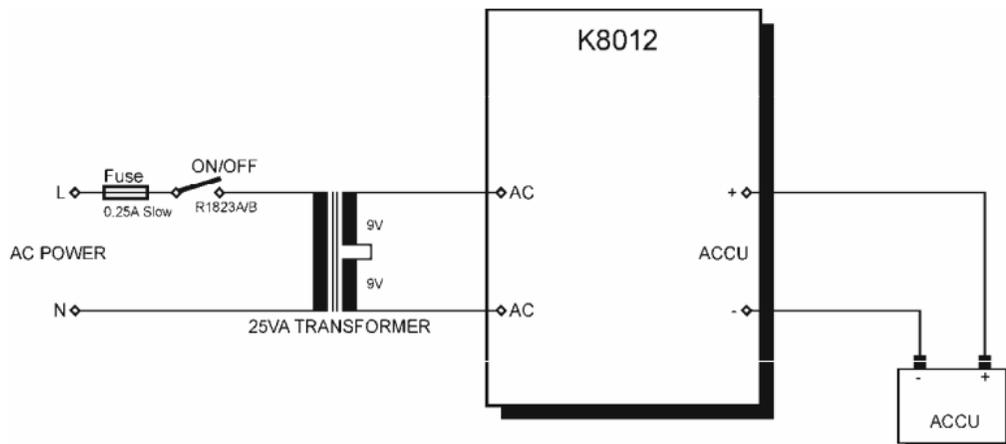

Fig. 10
**Connection:** The unit can be connected as shown on figure 10.